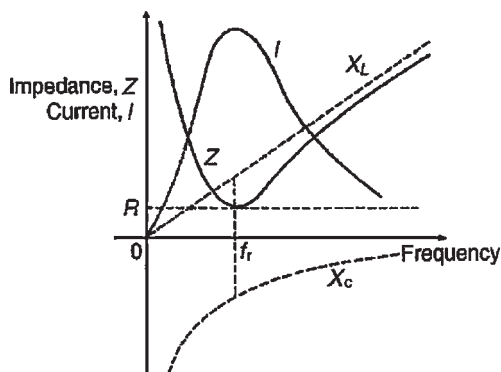

Figure 17.21
- Typical graphs of current I and impedance Z against frequency are shown in Fig. 17.21.